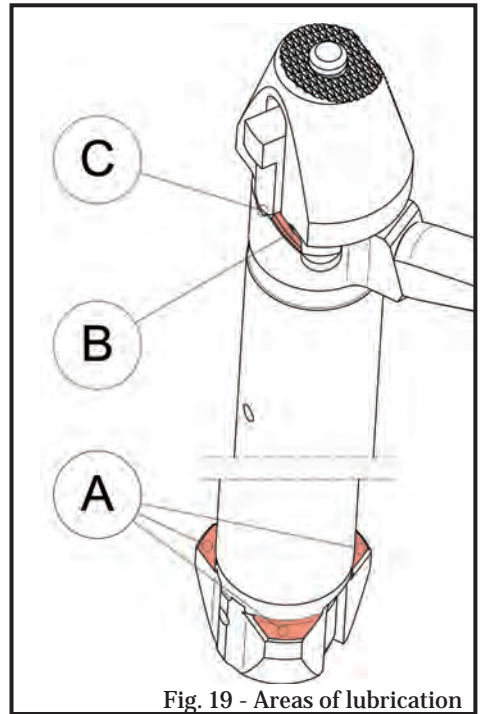

Fig. 19 - Areas of lubrication
- Make sure that locking lug surfaces (A), camming slope (B) and head of the cocking piece (C) are all lightly greased. (Fig. 19)